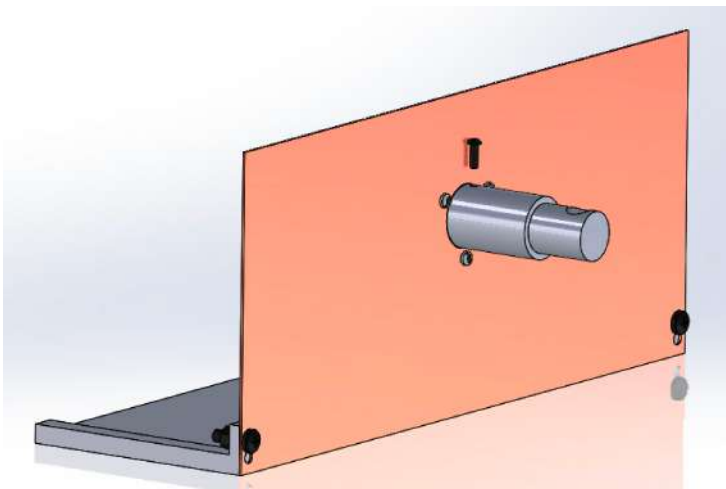

Figure 7: Motor to Driveshaft Adapter connected to motor via a M3 set screw
3. Slide the Motor to Driveshaft Adapter over the motor stud. Using a M3 screw, screw down onto one of the two flat sides of the motor stud to secure the adapter to the motor, as illustrated in figure 7.